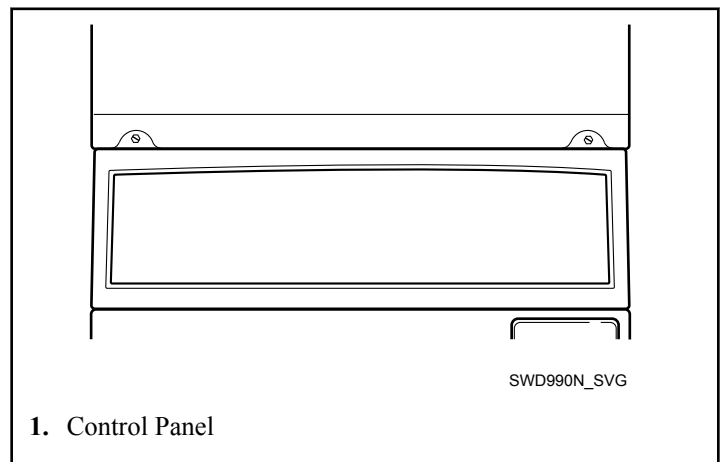

Figure 2
1. Open control panel. Refer to *Figure 2*.